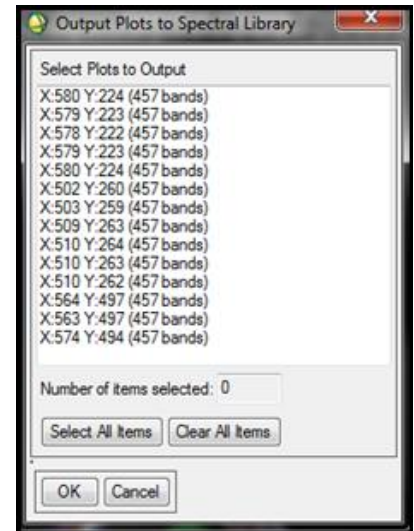

Figure 5.10f
- Click Select all Items in Output Plots window (Figure 5.10f).